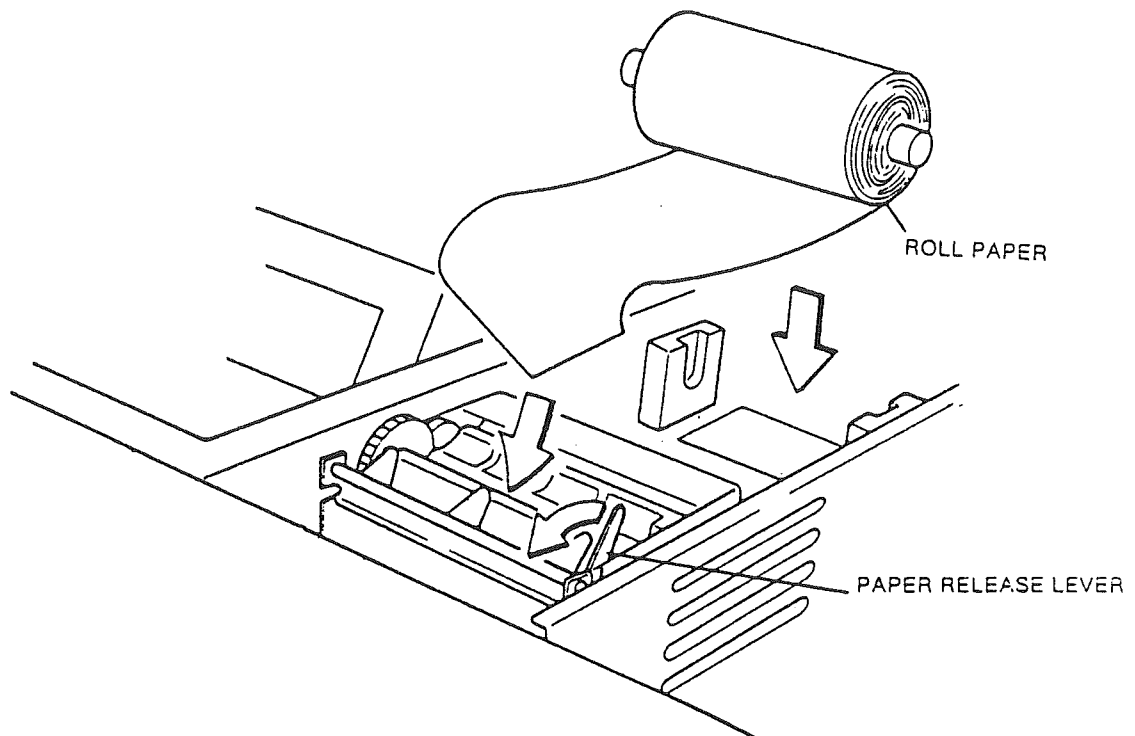

FIG. 8-8 Paper Loading
- 2) Pull the paper release lever all the way forward and insert the paper into the printer unit as shown. See FIG. 8-8.